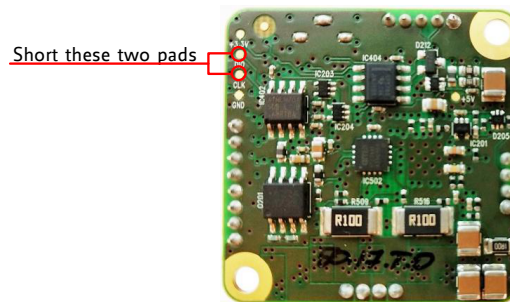

Figure 4: Reset to factory default settings
2. Short CLK and DIO pads of programming pads on bottom of pcb (see figure 4)